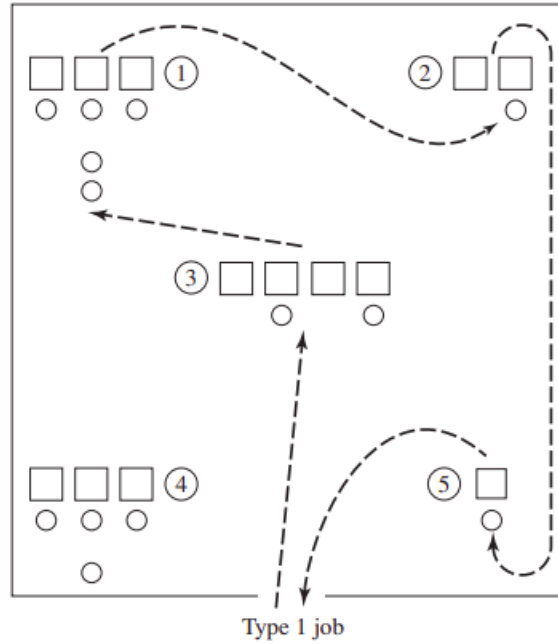

Figure 1: Job-shop example for Task-1
**Task 1:** In this task, you will implement a job-shop model. The model is a manufacturing system consisting of  $n$  workstations, and at present stations  $1, 2, \dots, n$  consist of  $n_i, i \in \{1, \dots, n\}$  identical machine(s), respectively, as shown in Figure 1. In effect, the system is a network of  $n$  multiserver queues. Assume that jobs arrive at the system with interarrival times that are IID exponential random variables with mean  $t$  hours. There are  $k$  types of jobs, and arriving jobs are of type  $1, 2, \dots, k$  with respective probabilities  $p_1, p_2, \dots, p_k$ . A job of type  $i$  requires  $s_i$  tasks to be done, and each task must be done at a specified station and in a prescribed order. For example, the Figure 1, the sequence for job 1 is  $3 \rightarrow 1 \rightarrow 2 \rightarrow 5$ .